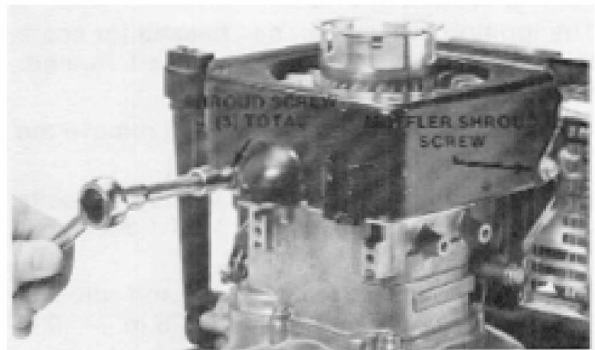

Figure 3-18
3. Remove the shrouding, including one screw retaining the muffler guard. See Fig. 3-18. Note: It is not necessary to remove the recoil starter unless it is to be serviced.